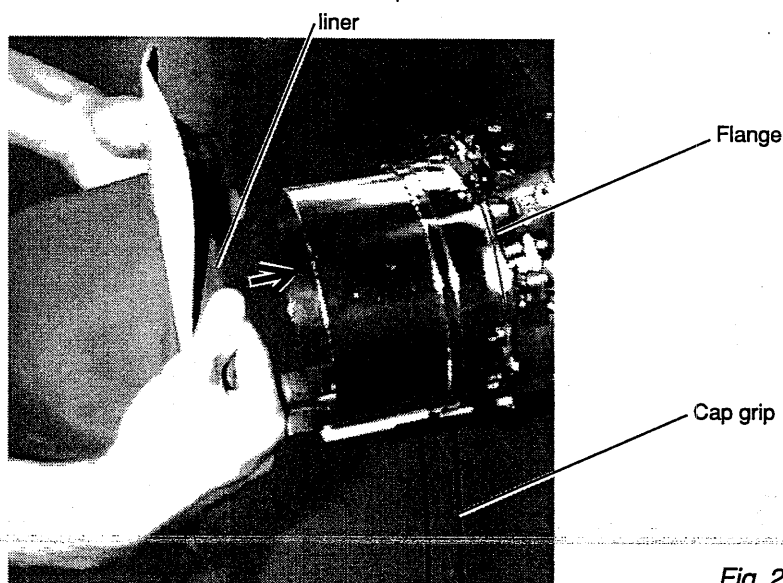

Fig. 2
- 3 As shown in Fig. 2, remove cap grip and keep open to the left.